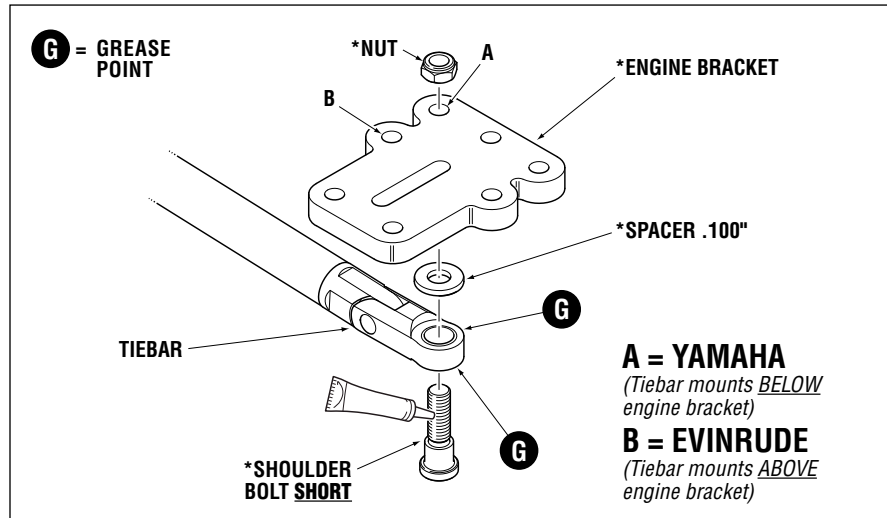

Figure 18.
- **Note** installation hole as per your engine make (A or B) see figure 18.